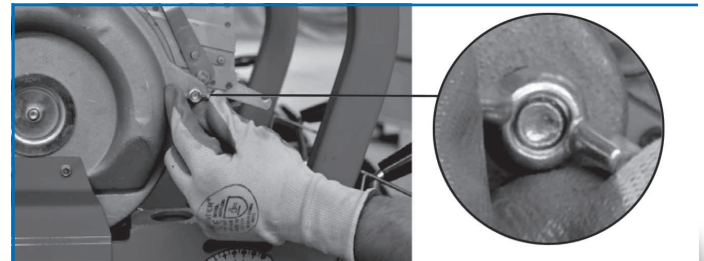

Figure 10
- Tighten the wing nut that is xed the side lid of sowing unit by hand. Do not use absolutely pliers, etc. (Fig. 10).
- 4) Detach the wing nut by loosening (Fig. 10).